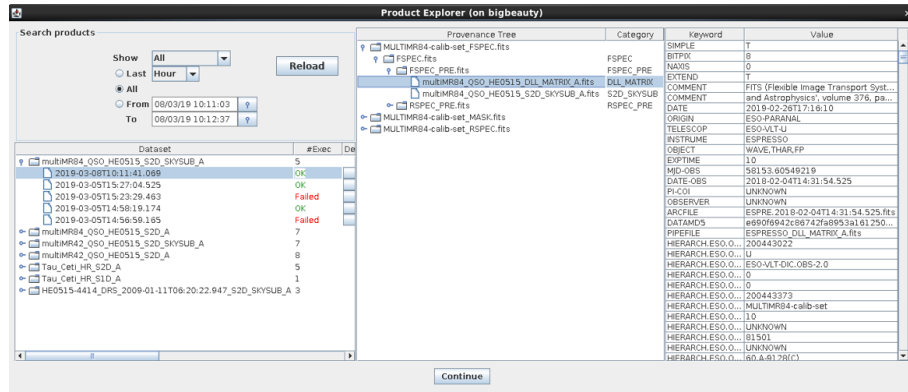

Figure 5.2.3: The Product Explorer shows all datasets reduced in previous executions together with the full reduction chain for all the pipeline products.
10. Once the analysis of all datasets has finished, a pop-up window called *Product Explorer* will appear, showing the datasets which have been analysed together with the list of final products. This actor allows the user to inspect the final data products, as well as to search and inspect the input data used to create any of the products of the workflow. Figure 5.2.3 shows the *Product Explorer* window. A full description of the *Product Explorer* will be presented in Section 5.2.3.
The `ProductExplorer` is an interactive component in the `esoreflex` workflow whose main purpose is to list the final products with the associated reduction tree for each dataset and for each reduction attempt (see Fig. 5.2.3).
The left window of the ProductExplorer GUI shows the executions for all the datasets (see Fig. 5.2.3). Once you click on a dataset, you get the list of reduction attempts. Green and red flags identify successful or unsuccessful reductions. Each reduction is linked to the “Description” tag assigned in the “Select Dataset” window.